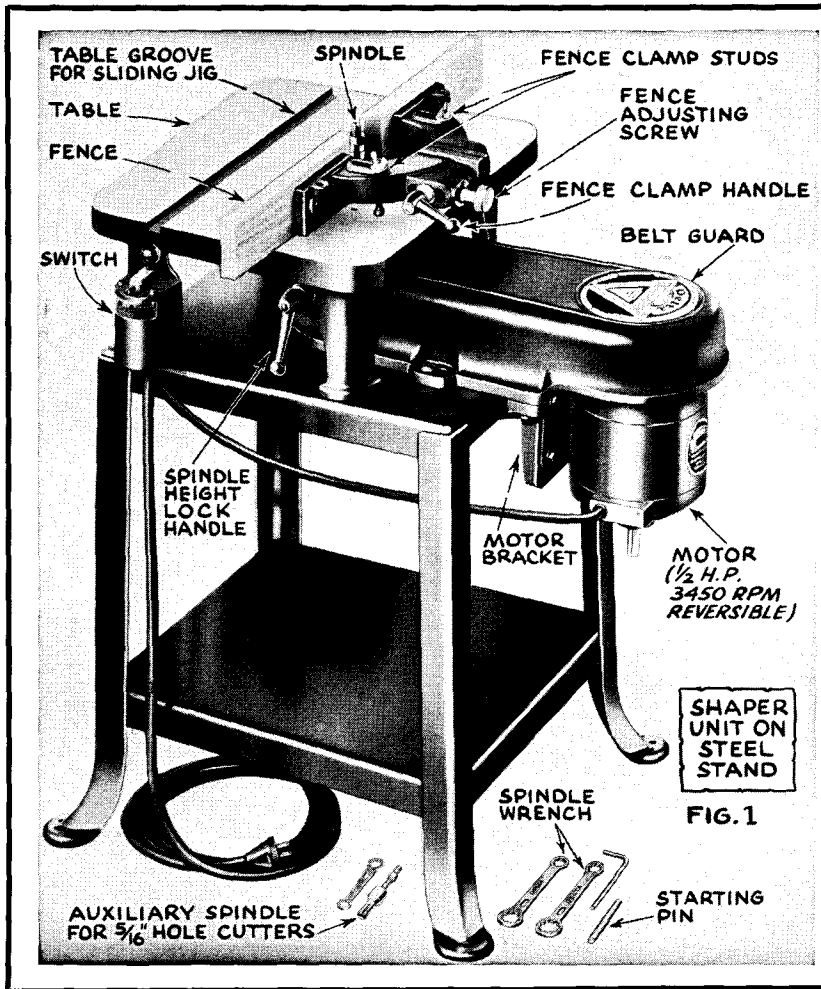

FIG. 1
the opposite page, is an aid to locating the auxiliary spindle. Once in place, the spindle can be fitted with the necessary collars and cutters, as shown in Fig. 4 on opposite page. Because of accurate fitting, it may be necessary to use the method shown in Fig. 1
**Shaper Cutters and Collars.**—A wide variety of knives, saws, collars, etc., are used in shaper operation, a typical group being as shown in the drawing at the right. Fig. 1 shows the standard three-lip cutter with  $\frac{1}{2}$  in. spindle hole. These are available in a wide variety of shapes and are undoubtedly the safest and most practical type of knife for average work in the small shop. Similar cutters with  $\frac{5}{16}$  in. hole can also be used by substituting an auxiliary spindle of the proper diameter. A second type of commonly used cutter is the open face knife clamped between two slotted collars, as shown in Fig. 2. The blank knives are easily ground to any required shape. The drawing in heading shows a three-knife cutterhead. A variety of ready-machined knives can be obtained, any set of which can be mounted in this head. The center hole is  $\frac{3}{4}$  inch, but a bushing permits mounting on a  $\frac{1}{2}$  inch spindle.
**Methods of Using Open Face Knives.**—Open face knives can be used in a number of different manners, as shown in the drawing above. Fig. 1 shows a standard set-up, two blank knives ground to the required contour being held between the collars. For light cutting, or where the run is not long, one knife alone is often used, as shown in Fig. 2, a short blank piece of steel being used in the other slot as a filler. It is important, of course, that the filler be the same exact width as the knife. Odd knives of the same width but of different shapes are sometimes mated, as shown in Fig. 3. The moulding which would be cut in the example is shown in Fig. 4. Mating is often useful, but should not be practiced unless both knives are approximately of the same weight. Grinding knives at both ends, Fig. 5, is widely practiced, and is especially good for cuts requiring a male and female joint. Straight knives ground to the same diameter as the cutterhead, as shown in Fig. 6 and Fig. 7, are often used for outline planing.
**Four Main Methods.**—There are four main methods used in shaper operation: (1) shaping with guides, (2) shaping against collars, (3) shaping with an outline pattern, (4) shaping with forms. Each of these methods is widely used, and each is adapted for a particular type of work. In the brief description of each method which follows, and in the illustrations, the same cut is shown for each, but this would not, of course, apply in actual work.
**Shaping with Guides.**—Guides are fastened to the shaper table and form a support for the work as it is advanced to the cutter. The most common type of guide is the standard fence, as shown in Fig. 1. In addition to this, there are a great number of other straight fences, also concave and convex fences for curved work and special fences for odd shapes. Shaping with a guide is the safest and most satisfactory method of working, and this method should always be used when the work permits. As can be seen in the diagram, the fence is the controlling factor in limiting the depth of cut.
**Setting the Cutter.** — In making any moulded edge, the pattern is usually marked on the end of the work. The proper cutter is then mounted on the spindle, after which the spindle is raised or lowered to the proper height. This is done with either the spiral adjustment, Fig. 1, or with the spindle-raising handwheel, Fig. A, depending on the machine. The fence is then located to give the right depth of cut, as shown in Fig. 2. Where collars are used, the collar is checked against the work in a similar manner.
**Definition.**—A shaper guide is any wood or metal fixture or fence which can be clamped or otherwise fastened to the shaper table in such a position as to form a guide for the work. The most common guide is the straight fence. It can be adjustable or non-adjustable, and varies considerably in construction, as will be seen in the following paragraphs. Curved fences are also used extensively as guides for circular and segment work. In every case, the guide is fixed, the work sliding along it to meet the cutter. When the work is advanced with its edge against the fence, the operation is known as *edge shaping*; when the work is advanced with its face against the fence, the operation is called *face shaping*, as shown in Fig. 1. Edge shaping is always preferred because of the better bearing surface thus afforded.